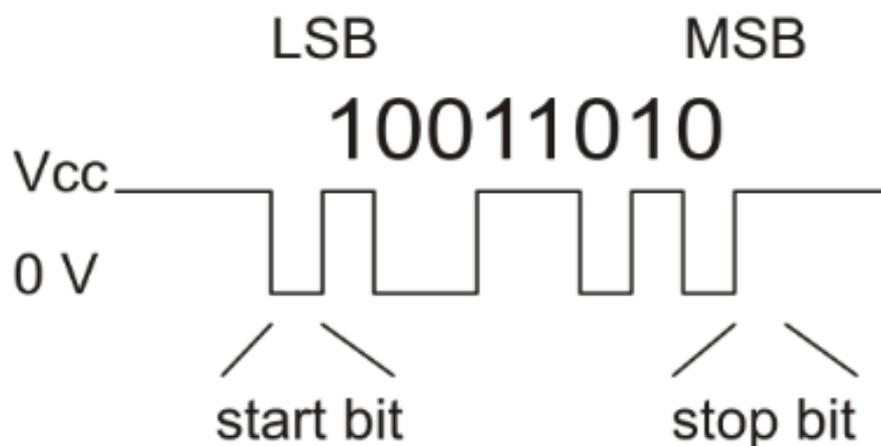

Figure 9. Example Serial Data stream
Figure 9 shows that the normal output on PIN 12 should be high. When data starts to be written, a start bit (0) is sent, then 8 data bits and a stop bit (1) at the end of packet.